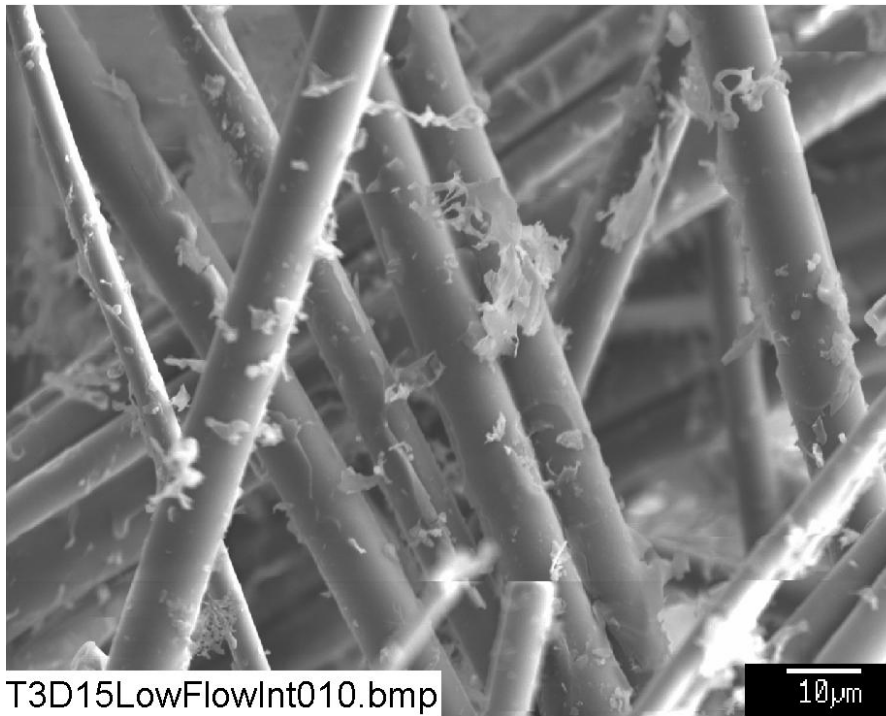

Figure B2-10. SEM image magnified 1000 times for a Test #3, Day-15 low-flow interior fiberglass sample. (T3D15LowFlowInt010)
- Figure B2-10. SEM image magnified 1000 times for a Test #3, Day-15 low-flow interior fiberglass sample. (T3D15LowFlowInt010) B2-9